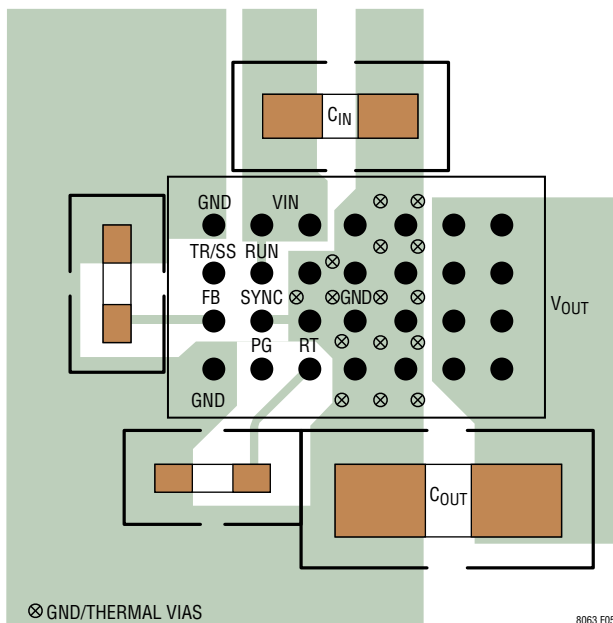

Figure 5. Layout Showing Suggested External Components, GND Plane and Thermal ViAs
Most of the headaches associated with PCB layout have been alleviated or even eliminated by the high level of integration of the LTM8063. The LTM8063 is nevertheless a switching power supply, and care must be taken to minimize EMI and ensure proper operation. Even with the high level of integration, you may fail to achieve specified operation with a haphazard or poor layout. See Figure 5 for a suggested layout. Ensure that the grounding and heat sinking are acceptable.
- Use vias to connect the GND copper area to the board's internal ground planes. Liberally distribute these GND vias to provide both a good ground connection and thermal path to the internal planes of the printed circuit board. Pay attention to the location and density of the thermal vias in Figure 5. The LTM8063 can benefit from the heat-sinking afforded by vias that connect to internal GND planes at these locations, due to their proximity to internal power handling components. The optimum number of thermal vias depends upon the printed circuit board design. For example, a board might use very small via holes. It should employ more thermal vias than a board that uses larger holes.